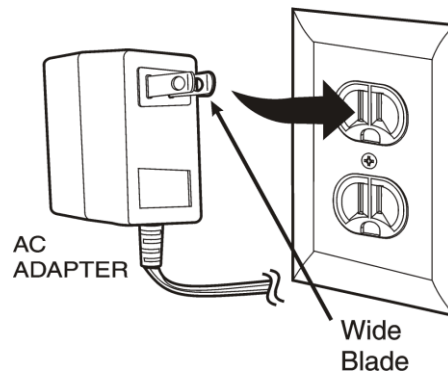

Figure 2-130 Plugging the AC Adapter into the AC Wall Outlet
7. Plug the AC adapter into a standard 120 Vac wall outlet. Refer to Figure 2-130 Plugging the AC Adapter into the AC Wall Outlet.